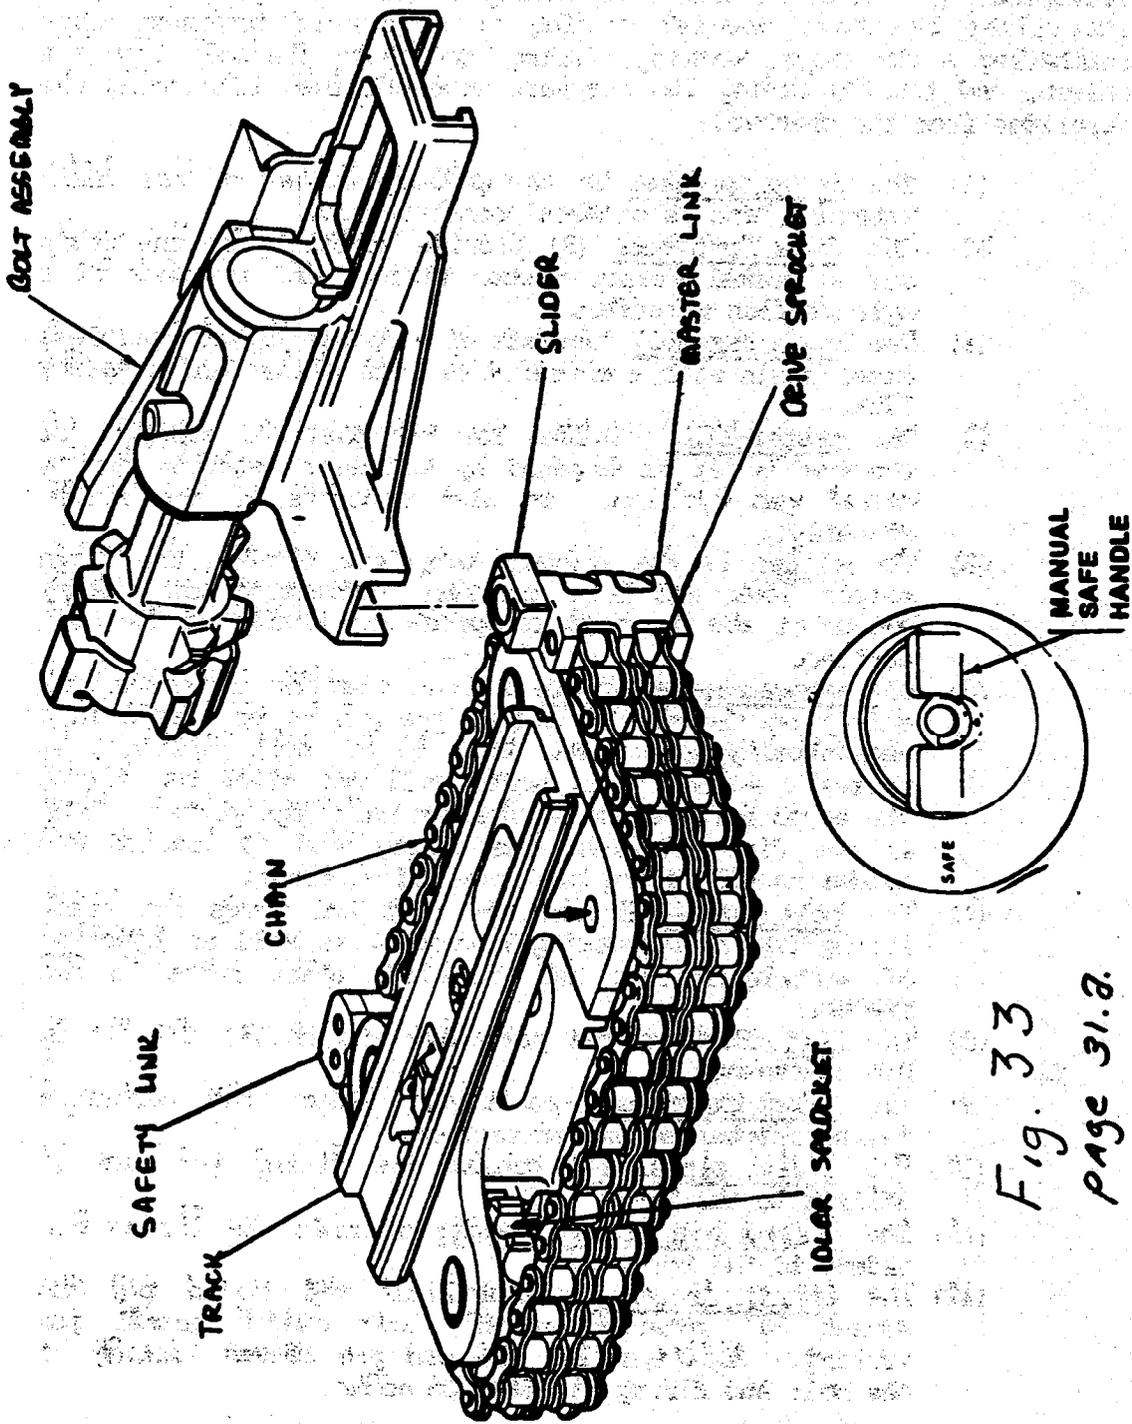

Fig. 33
- (8) The sear retractor assembly when locked enables the sear to be retracted from the chain master and safety links during manual firing of the gun.
- (9) The sear positively engages the chain master link at the end of each normal firing cycle and the chain safety link during a misfire when electrically firing the gun.
- (10) The sear release link connects the sear solenoid to the mechanical interlock assembly, enabling electrical retraction of the sear.
- (11) The sear solenoid electrically retracts the sear during normal firing. Additionally, a micro-switch indicates normal function of the gun when it is depressed during retraction of the sear when recoil occurs. This signal is transmitted to the Turret Distribution Box (TDB) which will enable the firing cycle to continue. If recoil does not occur, the microswitch cannot be depressed, resulting in non-sear retraction and electronic sensing by the TDB that an abnormal condition exists.
- (12) Gun power connector enables electronic interface between the gun when installed in the M3 turret and the fire control.
- (13) The 1.5 hp electric motor provides external drive to the gun through the receiver gears. It's secondary function is the application of a dynamic braking system, providing 80-85% of the stopping action to the gun. The sear provides for 15-20% and positively stops the gun in the sear and/or misfire positions. Normal RPM of the motor is 7700 RPM.
- (14) The vertical drive shaft handle is the drive interface between the receiver and the feeder assemblies.
- (15) The vertical drive shaft lock button engages the drive shaft in the fully locked position. When depressed it allows for the lowering of the drive shaft, enabling removal of the feeder assembly.
- (16) The rear track insures stability of the bolt carrier at it's rear most position during normal firing.
- (17) The forward and rear chain guides protect and stabilize the chain during normal firing.
c. The track and bolt assembly (see fig. 33 and 34) consists of a chain and sprocket track and bolt carrier. Its primary operation characteristics are the changing of rotary motion of the chain to reciprocating motion of the bolt during normal firing. The track stabilizes the bolt carrier during its forward movement when chambering a cartridge, locking, firing, unlocking the bolt from the breech, and finally during its rearward movement when extracting the cartridge from the chamber.
- (1) The drive sprocket is the primary driver of the chain assembly, and is of metal construction.
- (2) The idler sprockets (3) provide stability to the chain during normal rotation when firing, and are made of a nylon/teflon material.
- (3) The chain assembly consists of a double linked stainless steel chain with a master link with slider and a safety link.
- (4) The master link provides for the positive stopping of the gun as it is engaged by the sear assembly during normal gun cycling. It also consists of the slider assembly.
- (5) The slider is the primary interface between the chain master link and bolt carrier, converting the rotary motion of the chain to reciprocating motion of the bolt carrier.
- (6) The manual safe handle allows placing a mechanical safety on the gun or allows the gun to be placed in a mechanically safe mode. When in the safe position, it raises a safety pawl, which will not allow the firing pin to go forward and strike the cartridge primer. When in the fire position, the safety pawl is lowered and allows normal firing pin forward movement.
- (7) The bolt carrier houses the bolt and rides the track during its reciprocating movement, as well as ejection of cartridges thru the cartridge eject chute in the feeder.
- (8) The bolt chambers the cartridge and houses the firing pin components.
- (9) The fixed extractors positively secure the cartridge during chambering and extraction.
- (10) The firing pin sleeve houses the firing pin and is affixed to the bolt.